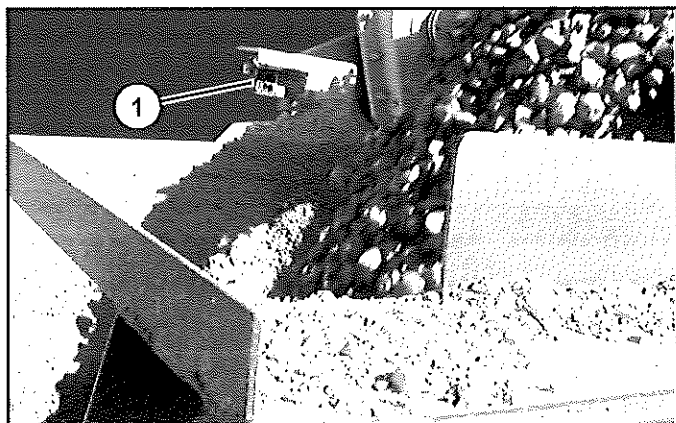

Figure 37
- With a photo eye flow switch (Item 1) (Figure 37), make sure the photo eye is being interrupted by material between the main conveyor and the stinger conveyor.